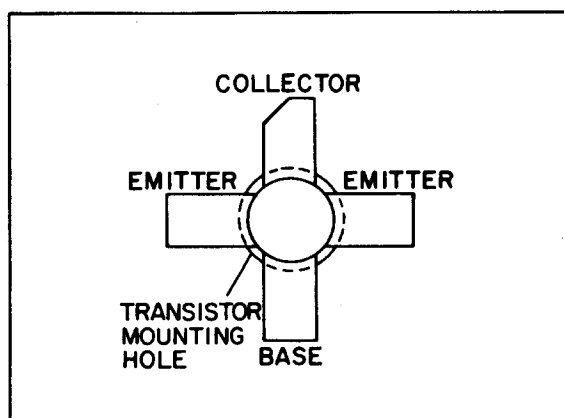
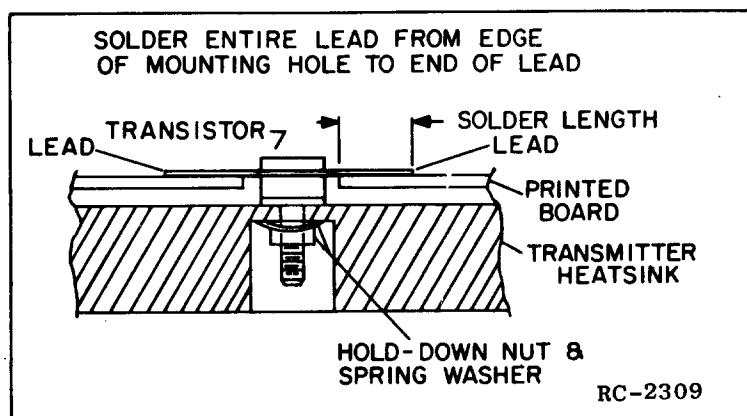
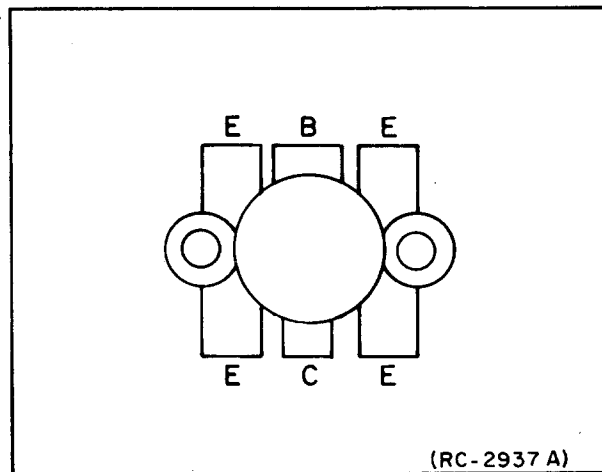

Figure 2 - Lead Identification
Figure 3 - Lead Forming
Figure 4 - Lead Identification for Q203 and Q204
- (1) Trim the new transistor leads (if required) to the lead length of the removed transistor. See Figure 4 for lead identification of Q203 and Q204. Cut the collector lead of Q202 at a 45° angle for future identification. See Figure 2). The letter "C" on the top of each transistor also indicates the collector.
- (2) Apply a coat of silicon grease around the transistor mounting surface, and place the transistor in the mounting hole. Align the leads as shown on the Outline Diagram. Then hold the body of the transistor and replace the hold-down nut and spring-washer (Q202) or the two retaining screws (Q203 and Q204) using moderate torque, 8 inch-pounds for Q202 or 6 inch-pounds for Q203 and Q204. A torque wrench must be used for this adjustment since transistor damage can result if too little or too much torque is used.
- (3) Make sure that the transistor leads are formed as shown in Figure 3 (Q202) so that the leads can be soldered to the printed circuit pattern, starting from the inner edge of the mounting hole.
- (4) Solder the leads to the printed circuit pattern. Start at the inner edge of mounting hole and solder the remaining length of transistor lead to the board. Use care not to use excessive heat that causes the printed wire board runs to lift up from the board. Check for shorts and solder bridges before applying power.